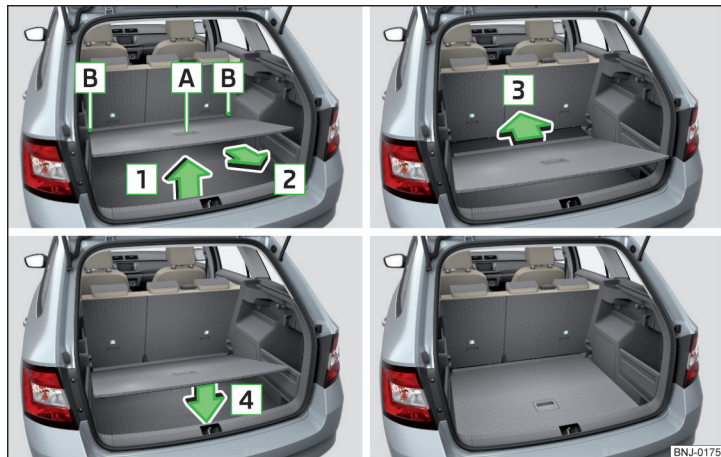

Fig. 92 Set the variable loading floor to the lower position
- Grasp the variable loading floor at handle **A** » Fig. 92.